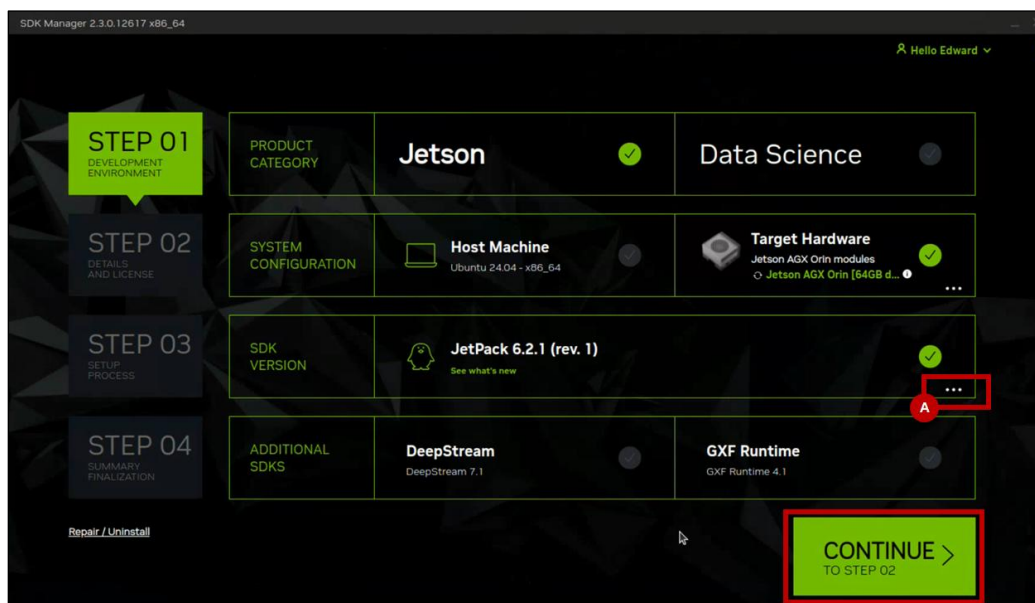

Figure 6.6. JetPack 6.2.1 (Rev.1)
7. Click the ... icon at (A) as shown in Figure 6.6, and select **JetPack 6.2.1 (Rev. 1)**. Then, click **CONTINUE** to proceed.